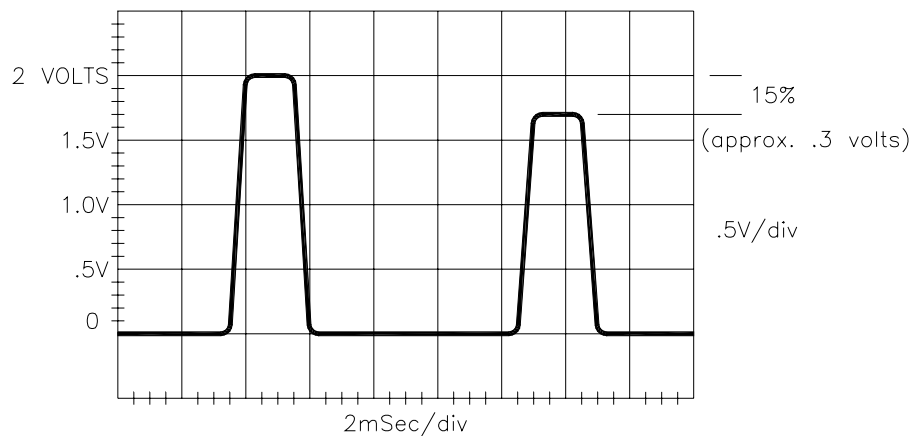

Figure 16. Detector Signal Adjustment
2. The detector adjustment potentiometer is accessible through the hole on the top of the detector cover. Use an electronic *tweezer* to adjust the preamp signal using for 2 volts peak-to-peak on the smaller signal (refer to Figure 16).
3. Verify that the two signals on the detector signal differ in amplitude by approximately 15% (refer to Figure 16). If they differ by less than 15%, the correlation wheel may require replacement.